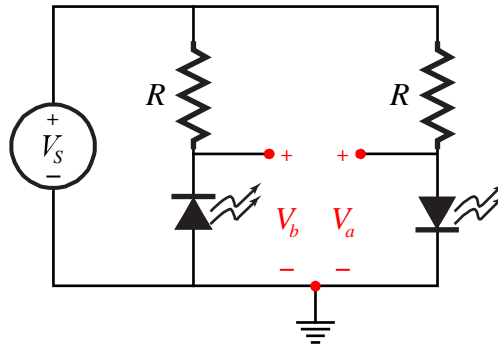

Figure 19: LED fun
- Construct the circuit shown in Figure 19 with $R = 1k\Omega$ and V_S being a 4Hz (not kHz!), 5V p-p triangle wave.